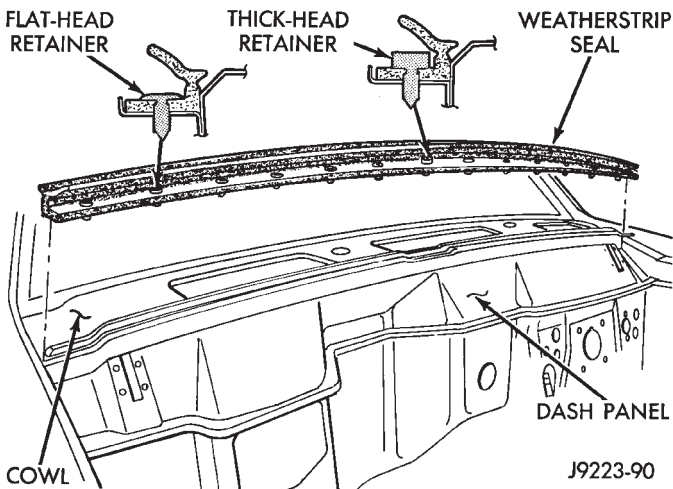

Fig. 23 Cowl Seal and Retainers
(4) Position the weatherstrip seal on the cowl panel. Press to insert retainers into the cowl panel holes (Fig. 23).